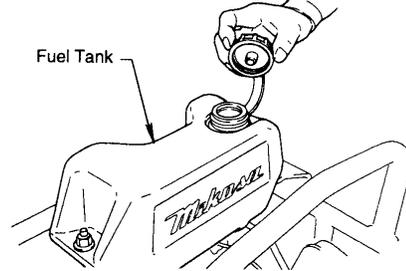

Figure 3. Fuel Tank
Before pouring fuel into the fuel tank (Figure 3) perform the following:
1. Fill the fuel tank (Figure 3) with unleaded gasoline. This rammer is equipped with a 2-cycle (mixed fuel) gasoline engine. Use a well blended mixture of fuel (25 parts gasoline to 1 part of 2-cycle outboard motor oil).